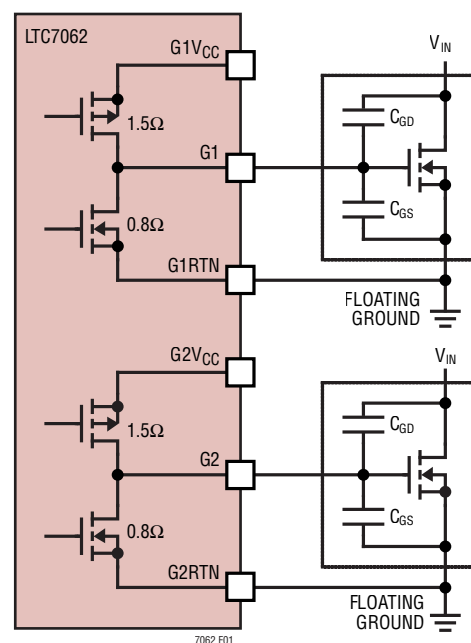

Figure 1. Simplified Output Stage
A simplified version of the LTC7062's output stage is shown in Figure 1. Both G1 and G2 designs are symmetrical and have floating gate-driver outputs. The pull-up device is a P-channel MOSFET with a typical 1.5Ω RDS(ON) and the pull-down device is a N-channel MOSFET with a typical 0.8Ω RDS(ON). The wide driver supply voltage ranging from 4V to 14V enables driving different power MOSFETs, such as logic level or high threshold MOSFETs. However, LTC7062 is optimized for high threshold MOSFETs (e.g., G1VCC – G1RTN = 10V and G2VCC – G2RTN = 10V). The driver output pull-up and pull-down resistance may increase with lower driver supply voltage.